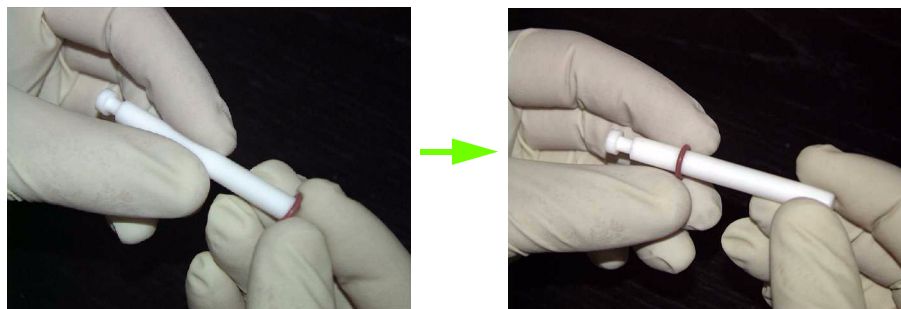

Fig.10: O'ring installation
- ◆ Install new O'ring then pull it on the piston (See "Fig.10: O'ring installation, page 8").